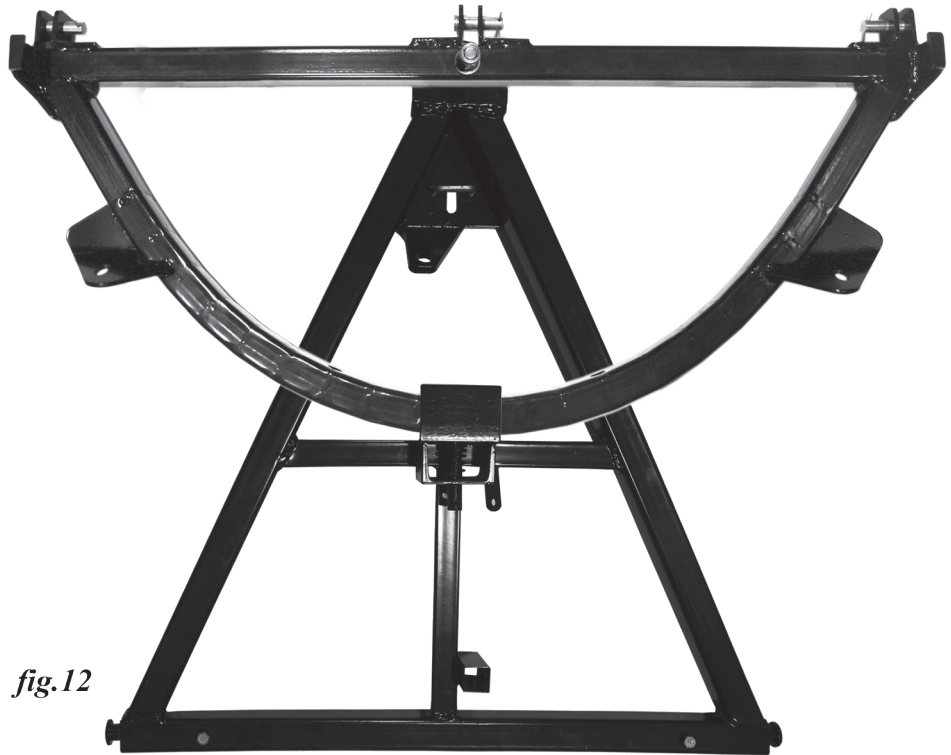

fig.12
- Assemble the D frame (fig.10) on top of the A frame (fig. 11). With the rounded portion of the D frame held so it slides under the angle bracket (a, fig.10) on top of the A frame and the centre hole engages the angle locking pin (12, fig.10), connect the two frames using the pivot bolt. This is a 75 mm (2.95") M6 gr.8 hex head bolt with a 16 mm washer (8, fig.10), inserted from below the hole in the apex of the "A" of the A frame, through the pivot bolt sleeve. It goes up through a hole in the centre of the straight side of the "D" in the D frame. Hold this in place with an M16 Nylock nut. (fig.12, below)